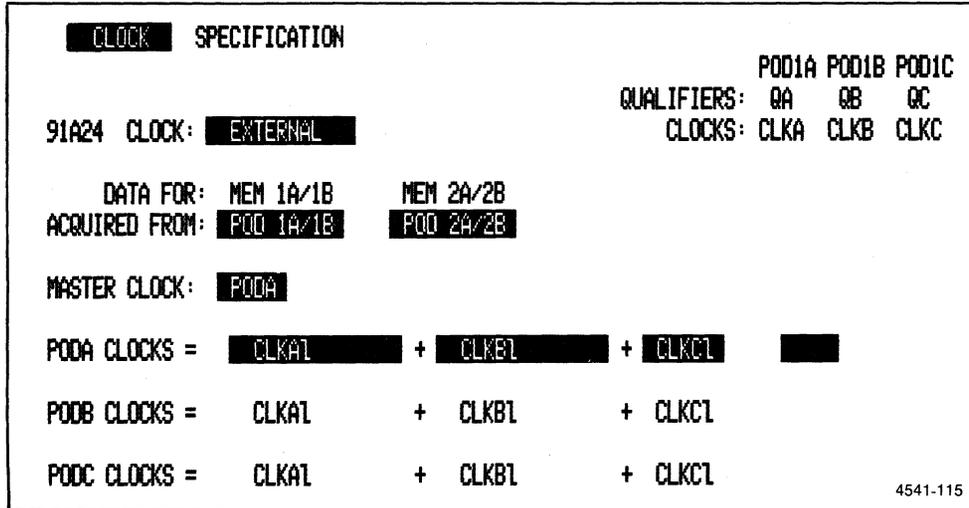

Figure 5-15. Clock Specification submenu setup for Functional Test 10.
2. Change the 91A24 clock setup to match Figure 5-15.